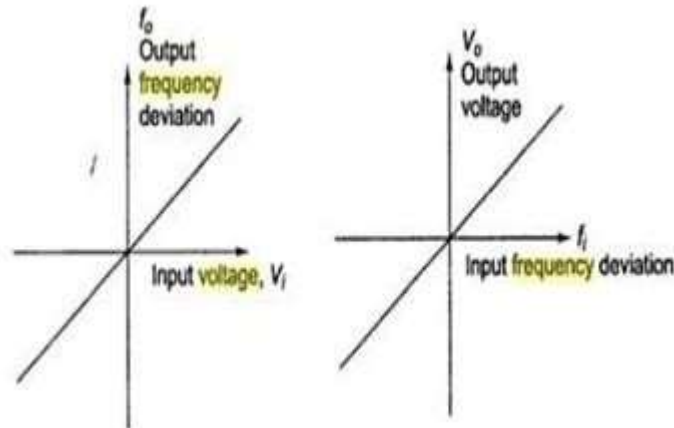

Figure 5.10.1 Ideal characteristics of V-F converter and F-V converter
- Ideal characteristics of V-F converter and F-V converter is shown in figure 5.10.1.